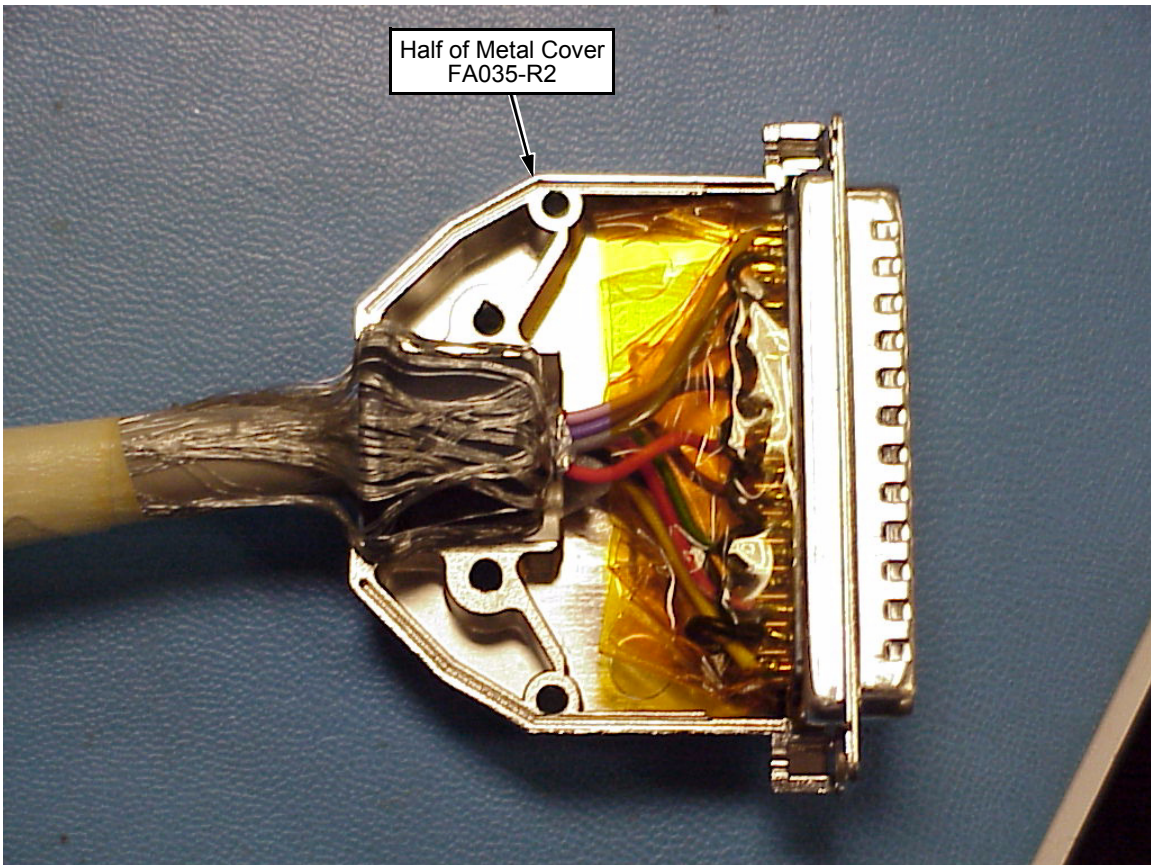

Figure 12. Installing the Cable and Connector
7. Install the cable and connector into one half of the metal cover. (Figure 12.)